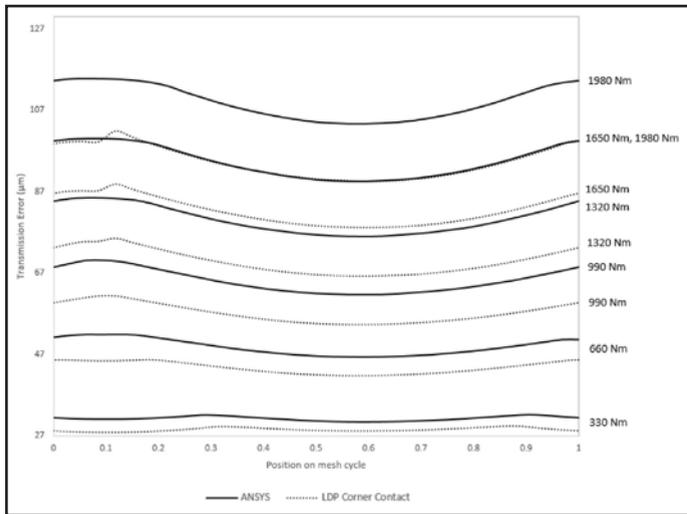

Figure 7 Harris map of calculated transmission errors (TEs) from ANSYS and LDP.
**Comparison of LDP and FE.** We begin by presenting the FE results as compared to those of a corresponding LDP model (LDP Version 4.6.1 was used for all results within this study). The LDP calculations were done using a mesh close to their default values. Unfortunately, a mesh refinement study was not feasible due to limitations of the program. Results from LDP are presented with the option for including extended tip contact. Figure 7 presents a Harris map of TE for a range of loads.